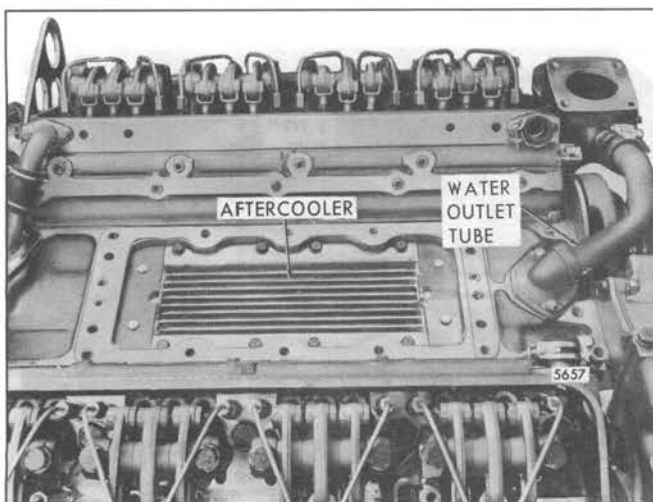

Fig. 1 - Aftercooler Mounted in Cylinder Block
The aftercooler mounts in the cylinder block opening between the cylinders, beneath the blower assembly (Fig. 1). The aftercooler (Fig. 2) cools the air going into the engine after it passes through both the turbocharger and the blower. The air flows downward through the aftercooler and the coolant flows from rear to front through the aftercooler and returns through the left bank thermostat housing (6 and 8V engines) and to the water manifold (12 and 16V engines).
6. Remove and discard the 5/16"-18 x 9/16" attaching bolts with nylon locking patch and lift the aftercooler from the cylinder block opening between the cylinders. *Do not remove the four bolts in the top face of the aftercooler (Fig. 1). They are part of the aftercooler assembly and need not be removed for any reason.*